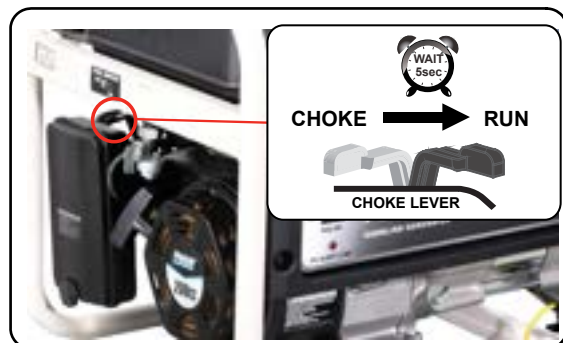

Fig 10
- Let engine run for several seconds and then gradually, as engine warms up, slide the choke lever towards the “RUN” position until the choke is fully slid to the “RUN” position. (See fig 10)